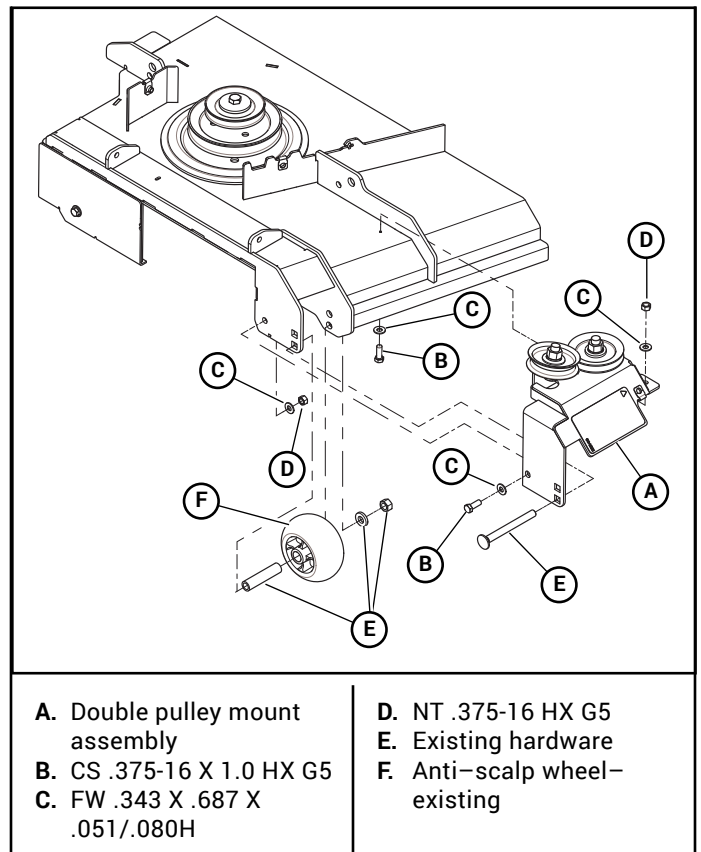

Figure 3-24
10. Attach the double pulley mount assembly to the deck using the hardware shown. Figure 3-24
11. Re-attach the anti-scalp wheel to the deck using the existing hardware. Figure 3-24